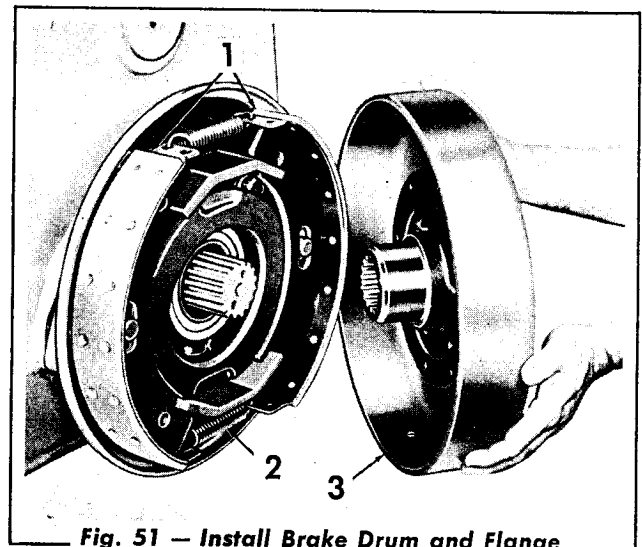

Fig. 51 — Install Brake Drum and Flange Assembly
15. Install the brake shoe assemblies (Fig. 51)